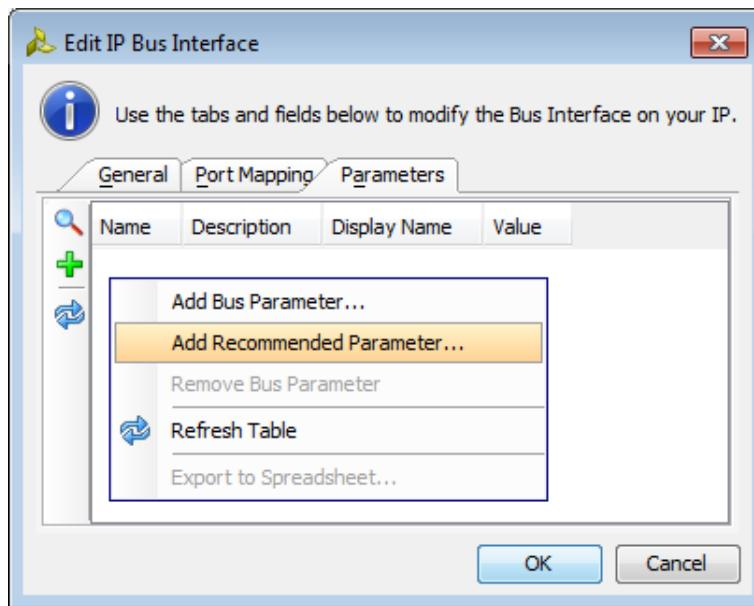

Figure 8-62: Edit IP Bus Interface – Add Recommended Parameter
1. To add a recommended parameter, right-click the window, and select **Add Recommended Parameter**, (Figure 8-62, page 123).